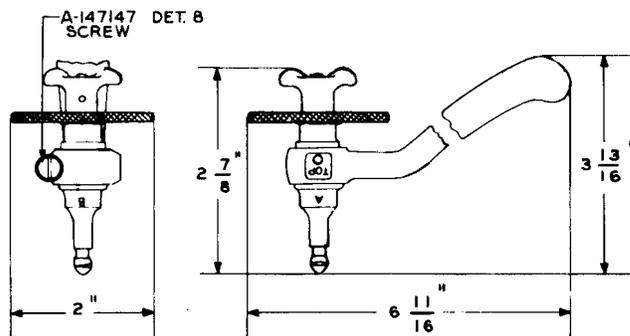

Fig. 1—409A Jack Sleeve Crimper Tool
2.02 **409A:** The 409A tool (Fig. 1) is a jack sleeve crimper used in crimping the replacement sleeves of the 49 and 141-type jacks.